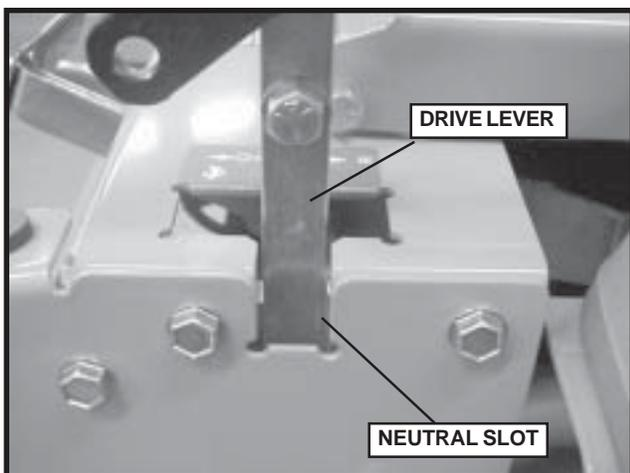

FIGURE 5
7. Move the plastic up so that the drive levers can be seen. Visually check the location of the drive lever to assure that it is in line with the neutral slot. See Figure 5. If it is not, proceed with the following steps. If it is in line with the neutral slot, skip to step 14.
10. Place the drive levers so that they are in line with the neutral slot. See Figure 5. If your mower is un-crated, fold the drive levers out into the neutral position.